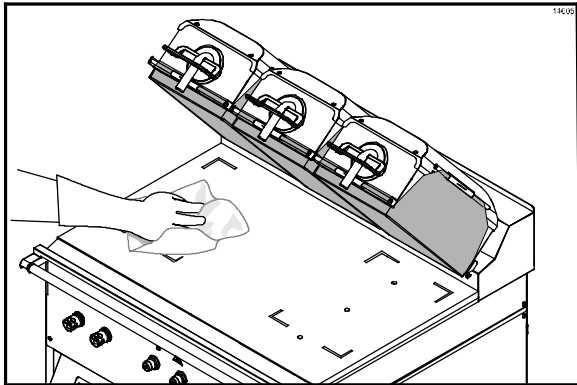

Figure 11
1. Clean the grill with a sanitizer-soaked grill cloth to remove any debris on the grill. (See Figure 11.)